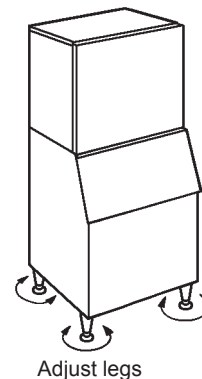

Fig. 5
- 7) Adjust the four legs on the bottom (adjustable from 0 to 25.4 mm) to have the icemaker perfectly horizontal. Use the spirit level. See Fig. 5.